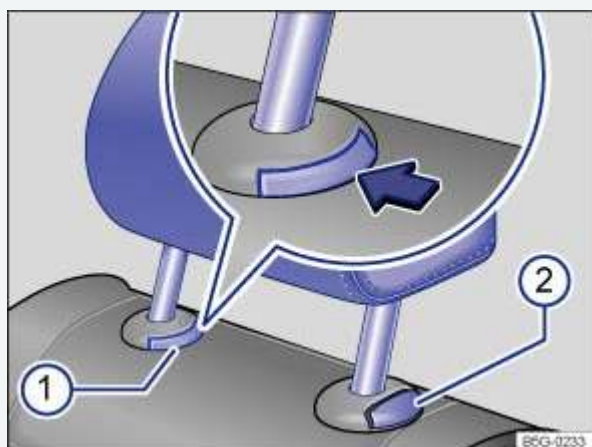
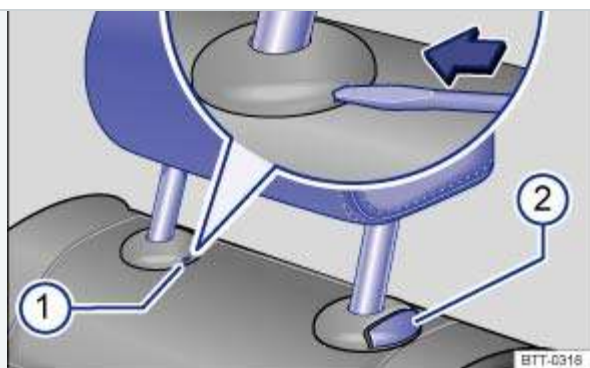

Fig. 47 Removing the rear head restraint (version A).
Fig. 48 Removing the rear head restraint (version B).
- Push button ⇒ Fig. 47① in the direction of the arrow and hold it in this position.
- At the same time press button ② while a second person pulls out the head restraint completely.
- If necessary, press the flat blade of the screwdriver from the vehicle tool kit into the slit of the trim cap ⇒ Fig. 48② in the direction of the arrow and hold it in this position.
- Push the head restraint down while pressing button ⇒ *Fig. 47* or ⇒ *Fig. 48*.